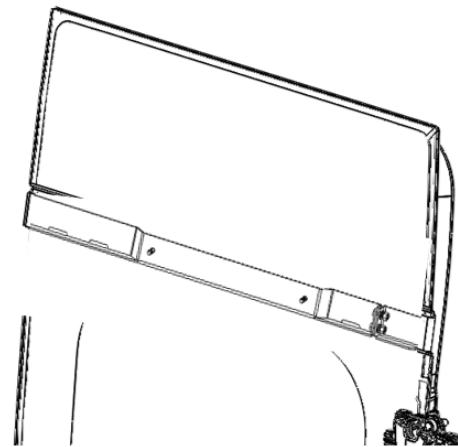

Figure 5: Tension Bar Installed on Rear Door
13. Loosely hook the fixed end of the longer tension bar bracket around the door's pinch weld, just above the window location (Figure 5). The long hook end should be on the inside seam with the mounting studs towards the taillight.